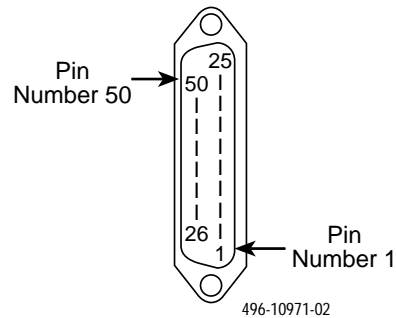

Figure A-1. 50-Pin Cable Connector
- Figure A-1 is a diagram of the 50-pin digital or analog leased-line network interface connector.